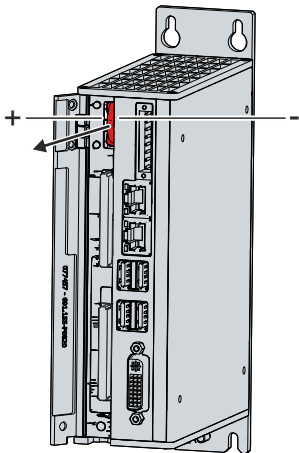

Fig. 19: C6915_Battery change
2. Insert the new battery into the PC by hand. Pay attention to the correct polarity. The negative pole of the battery must face the voltage socket of the industrial PC (see fig. 19).